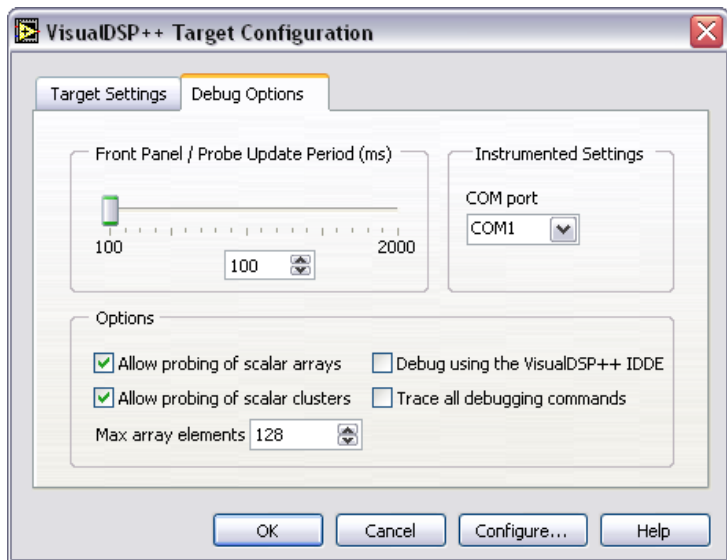

Figure 16. Configuring the Debugging Options
6. Change the **Front Panel/Probe Update Period (ms)** to 100 by moving the slider or typing 100 in the box under the slider as shown in Figure 16, which configures how often the front panel updates with data from the Blackfin application.